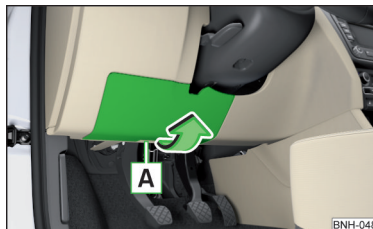

Fig. 149
- Grip the fuse box cover at point **A** and take-out in the direction of arrow » Fig. 149.